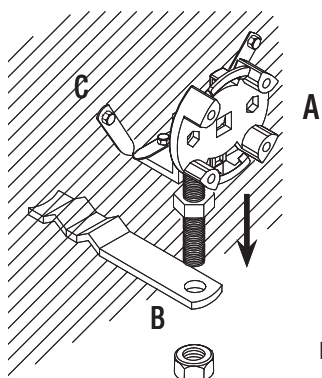

Fig. 13
1. Secure the adjustable motor support (Ref. **A**) in the hole of the wall fitted bracket (Ref. **B**), as shown in figure 13.